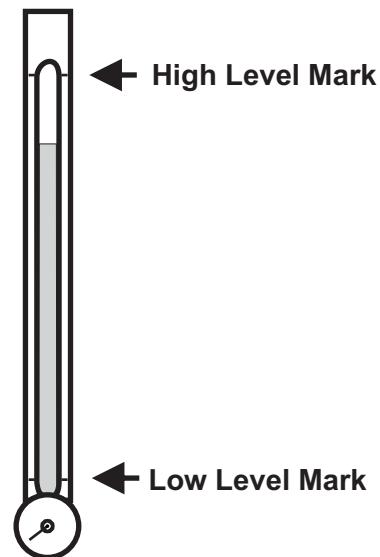

Figure 36 - Oil level sight gauge
**Reservoir Oil Level** Oil Level Float switch is installed to detect the oil level. Motor starter shuts off when oil level is 1" below the low level mark. The reservoir is full when the Oil level is 2" to 3" below the High Level Mark with cylinders extended (see Figure 36).